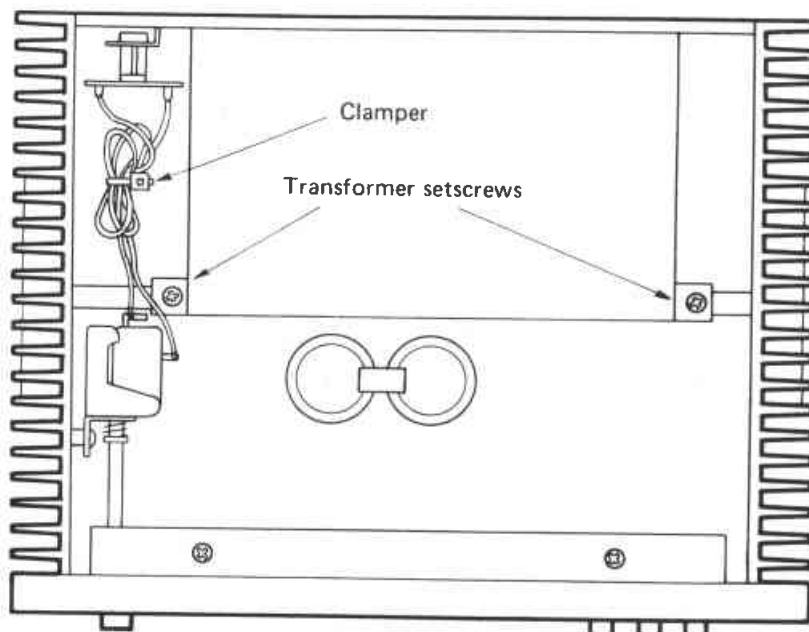

Fig. 2
- 4) Remove the two screws of the power transformer. (Refer to Fig. 2)
- 5) The leads from the power switch are clamped. Cut the clammer with cutters. (Refer to Fig. 2)